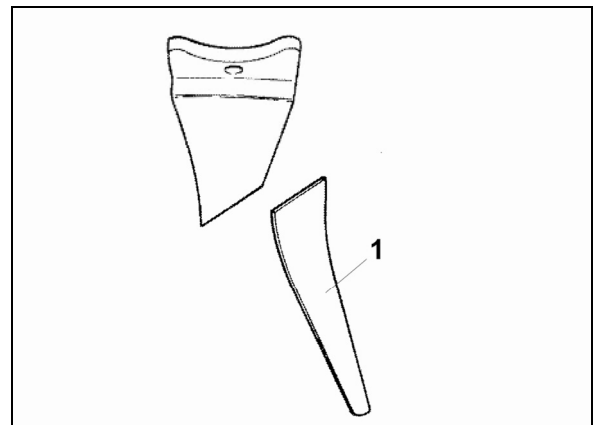

Fig. 60
With increasing wear the original length of the tines can be regained by using welding tips (Fig. 60/1). First remove the tines from the rotor according on page 88.
1. Hold the tip to be welded (Fig. 60/1) to the old tine and make a cutting mark.